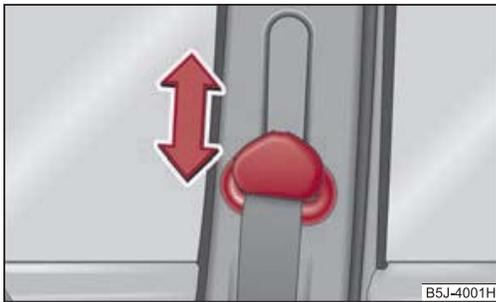

Fig. 4 Front seat: Seat belt height adjuster
- To adjust the belt height press the height adjuster and move it up or down ⇒ fig. 4.